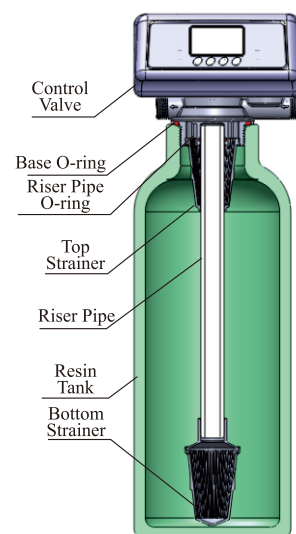

Figure 1-1
- ① The filter should be located closely to drain.
- ② Ensure the unit is installed in enough space for operating and maintenance.
- ③ The unit should be kept away from the heater, and not be exposed to outdoor. Sunshine or rain will cause the system damage.
- ④ Please avoid to installing the system in one acid/alkaline, magnetic or strong vibration circumstance, because above factors will cause the system disorder.
- ⑤ Do not install the filter, drain pipeline in circumstance which temperature may drop below 5°C, or above 50°C.
- ⑥ Install the system in the place where with minimum loss in case of water leaking.
① Install control valve
- a. As the Figure 1-1 shows, select the relevant riser pipe, glue the riser pipe to the bottom strainer and put it into the mineral tank, cut off the exceeding tube out of tank top opening and round it. Plug the riser pipe in case of mineral entering.